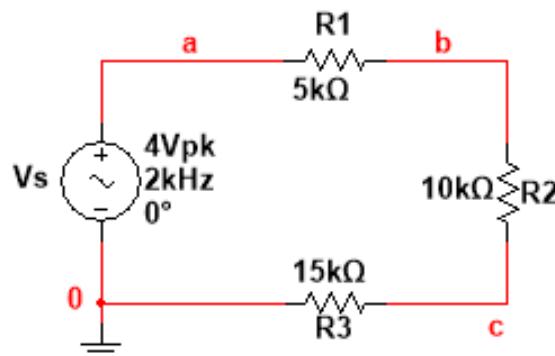

Fig.D.1.2.1: Circuit diagram of a purely resistive series AC circuit
- Measure the practical values of the circuit components (R_1 , R_2 , R_3) shown in Fig.D.1.2.1 using DMM and note down in the Table 1.1.
- Construct the circuit shown Fig.D.1.2.1 on the bread board. Use minimal wires.
1. Use the measured value of the components from Table 1.1 in Fig.D.1.2.1 and show the full theoretical calculations in Box 1.1 for V_{R1} , V_{R2} and V_{R3} .
1. Use the nominal values of the components in Fig.D.1.2.1 and show the full theoretical calculations in Box 1.2 for V_{R1} , V_{R2} and V_{R3} .
1. Draw the Voltage Phasor diagram of the circuit in Fig.D.1.2.1 with the calculated values from Box 1.2 in Box 1.3.
1. Construct the circuit in Fig.D.1.2.1 and show the voltage drop across R1 on Oscilloscope screen and show the voltage drop across R2 on multi-meter screen
1. Construct the circuit in Fig.D.1.2.1 and find the voltage drops across R1, R2 and R3 using single frequency ac analysis.
1. Construct the circuit in Fig.D.1.2.1 and show the voltage drop across R1, R2 and R3 using transient analysis.
4. For the circuit shown in Fig.D.1.2.1, can you measure the voltage drop across R1 by using only a single channel of the Oscilloscope? If so, explain how. Why did we use MATH function in our experiment, explain?